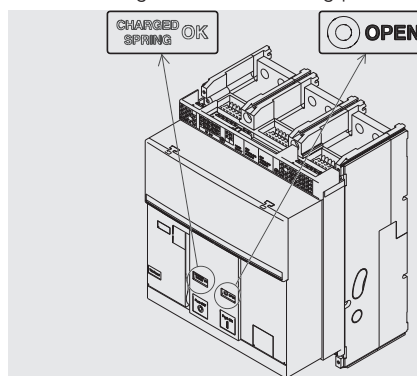

Figure 43
3. Check that the circuit-breaker is open (open/closed signalling device "O - OPEN"), and check that the springs are charged (springs signalling device "yellow - CHARGED SPRING") as indicated in Figure 43.